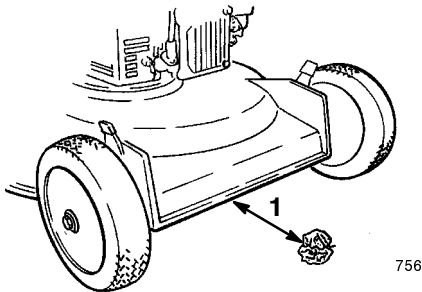

Figure 12
5. Take a half sheet of newspaper and crumple it into a ball small enough to go under the deck (about three inches or 76 mm in diameter) as shown in Figure 12.
6. Place the ball of newspaper five inches (12.7 cm) in front of the lawn mower (Fig. 12).
- A. Place the ball of newspaper five inches (12.7 cm) in front of the lawn mower (Fig. 12).